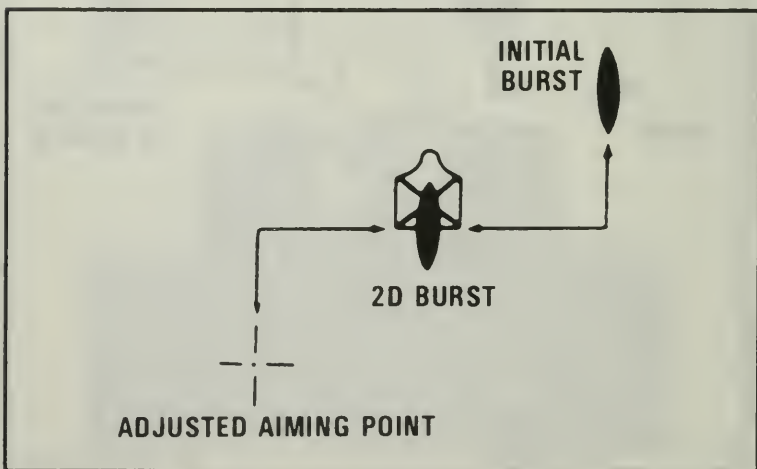

Figure 155. Adjusting the aiming point.
b. If you miss the target with your initial burst, select a new aiming point on the ground the same distance from the target as the center of impact of the initial burst but in the opposite direction, and fire a second burst (Figure 155).